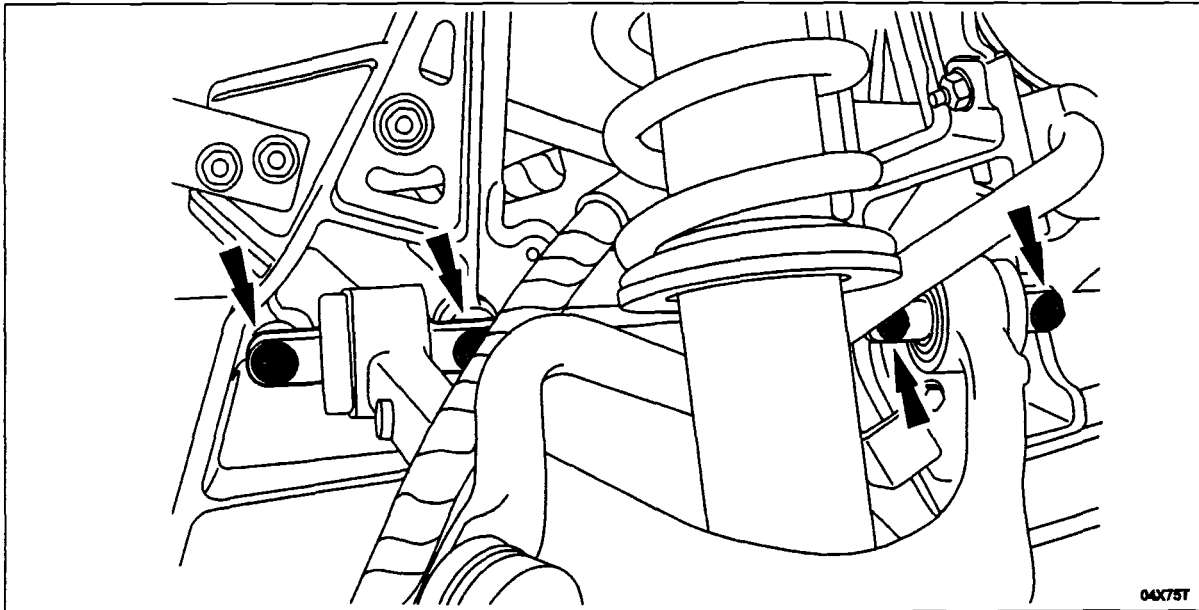

FIGURE 20
3. Tighten the bolts to 30 Nm (22 lb-ft), then apply a paint stripe to the bolts and check the appropriate box on the Master Compliance Inspection Report. See Figure 20.